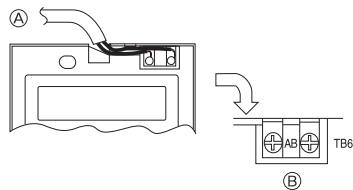

Fig. 5-7
2) Connecting procedures (Fig. 5-7)
① Connect the remote controller cord to the terminal block.